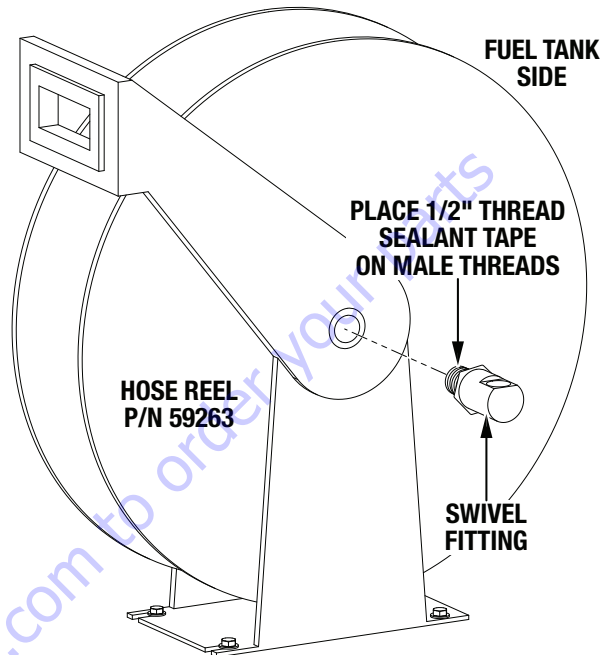

Figure 28. Swivel Fitting Installation (Fuel Tank Side)
- Each hose reel (P/N 59263) includes a 3/4" swivel fitting. **On the fuel tank side** of the air compressor, place 1/2" thread sealant tape onto the male threads of the hose reel swivel fitting. See Figure 28.
- Insert the swivel fitting into the opening on the hose reel (P/N 59263) **on the fuel tank side** of the air compressor, and tighten it securely (Figure 28).